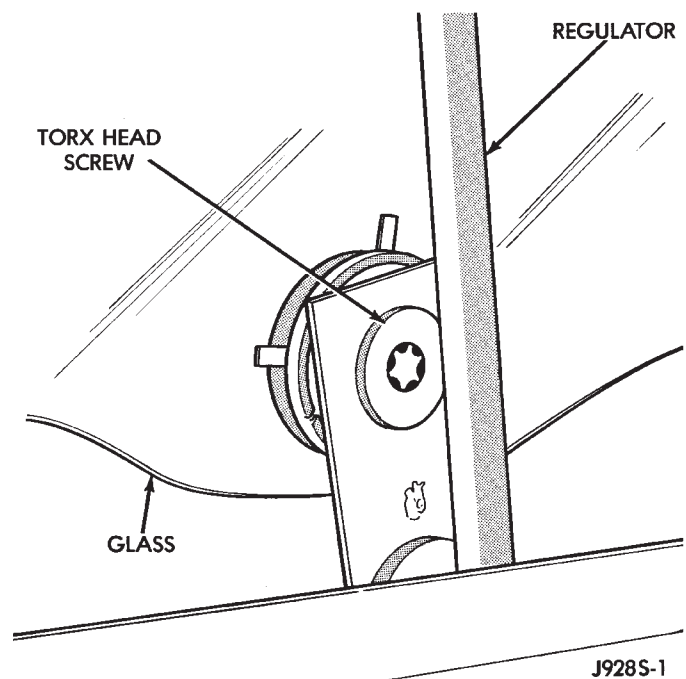

Fig. 7 Remove/Install Glass Attaching Screw
(10) Adjust window to allow access to Torx head screw (Fig. 7).
(11) Remove 2 screws holding bottom of regulator to door.
(12) Remove door glass attaching Torx head screw (Fig. 7).
(1) Place regulator inside door.
(2) Attach regulator to door using screws or the hardware kit supplied with a new regulator. DO NOT install the 2 screws that hold the bottom of the regulator.
(3) Connect wire harness connector to regulator.
(4) Attach door glass with Torx head screw (Fig. 7). Tighten door glass screw to 3.3 N·m (30 in. lbs.) torque.
(5) Install the last 2 screws.
(6) Using 3M 08044 or 3M 08041 adhesive/sealant, install plastic water dam sheet.
(7) Place trim panel in the installation position and press in nylon retainers.
(8) Install the armrest.
(9) Install latch release assembly and control panel.